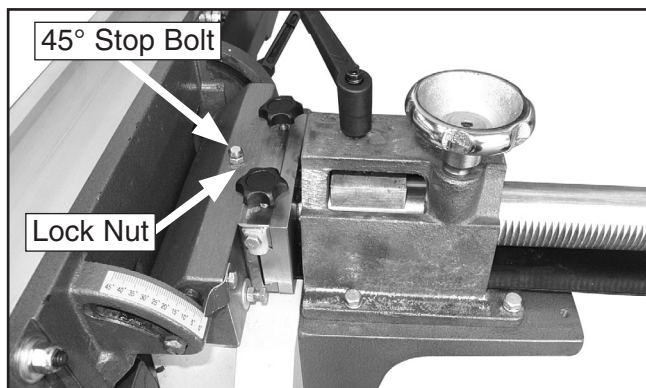

Figure 71. Adjusting fence 45° outward.
2. Loosen the lock nut on the 45° fence stop bolt (**Figure 71**).